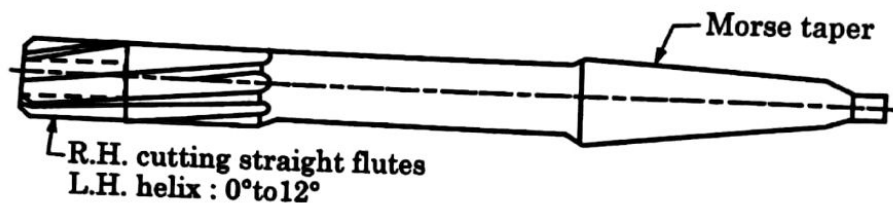

Fig. 2.39 : Fluted Machine Reamer
3. Machine Reamers : Two types of reamers come in this category, namely fluted reamers and rose reamers. The fluted reamers differ from the rose reamers. Fluted reamer carries more number of cutting teeth than the rose reamer for the same diameter. Mostly machine reamers have taper shank. But, these reamers may have straight flutes. Generally, machine reamers are cut with a left-hand helix, the angle made by flute with the length of the reamer varying from 4° to 8° . Fig. 2.39 shows machine reamers.